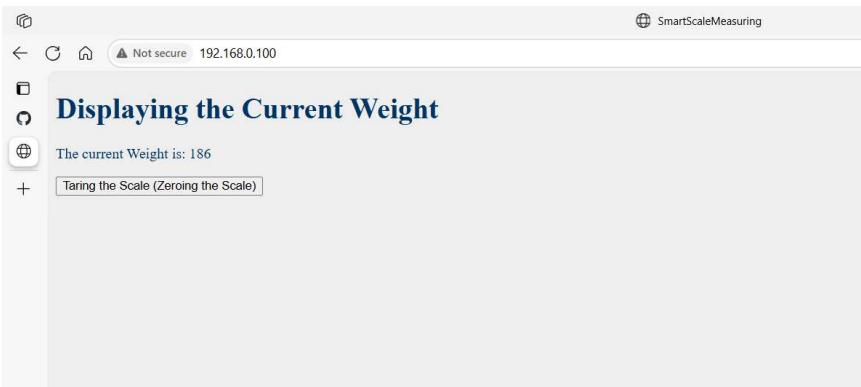

Figure 7: Web Interface
- Open your browser and use the IP address of the web server and type enter. You should see the web page, as shown in the Figure 7.